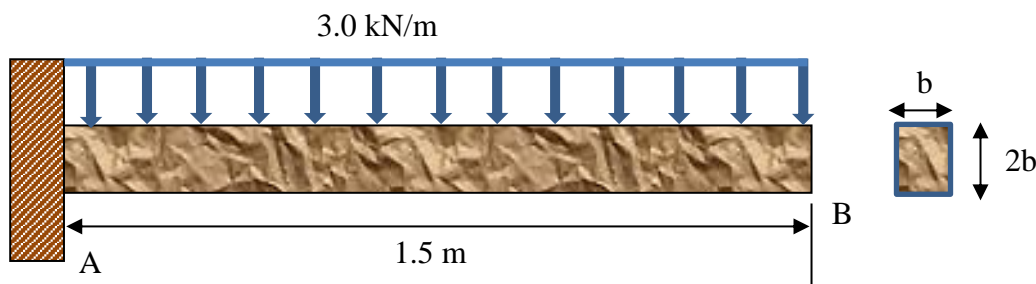

Figure 6 / Rajah 6
4. (a). For the beam and loading shown in **Figure 6**,
- (b). (i). Calculate the maximum deflection of the beam shown in **Figure 6** using the dimension from part (a). Given the modulus of elasticity, $E = 12.5\text{ GPa}$.